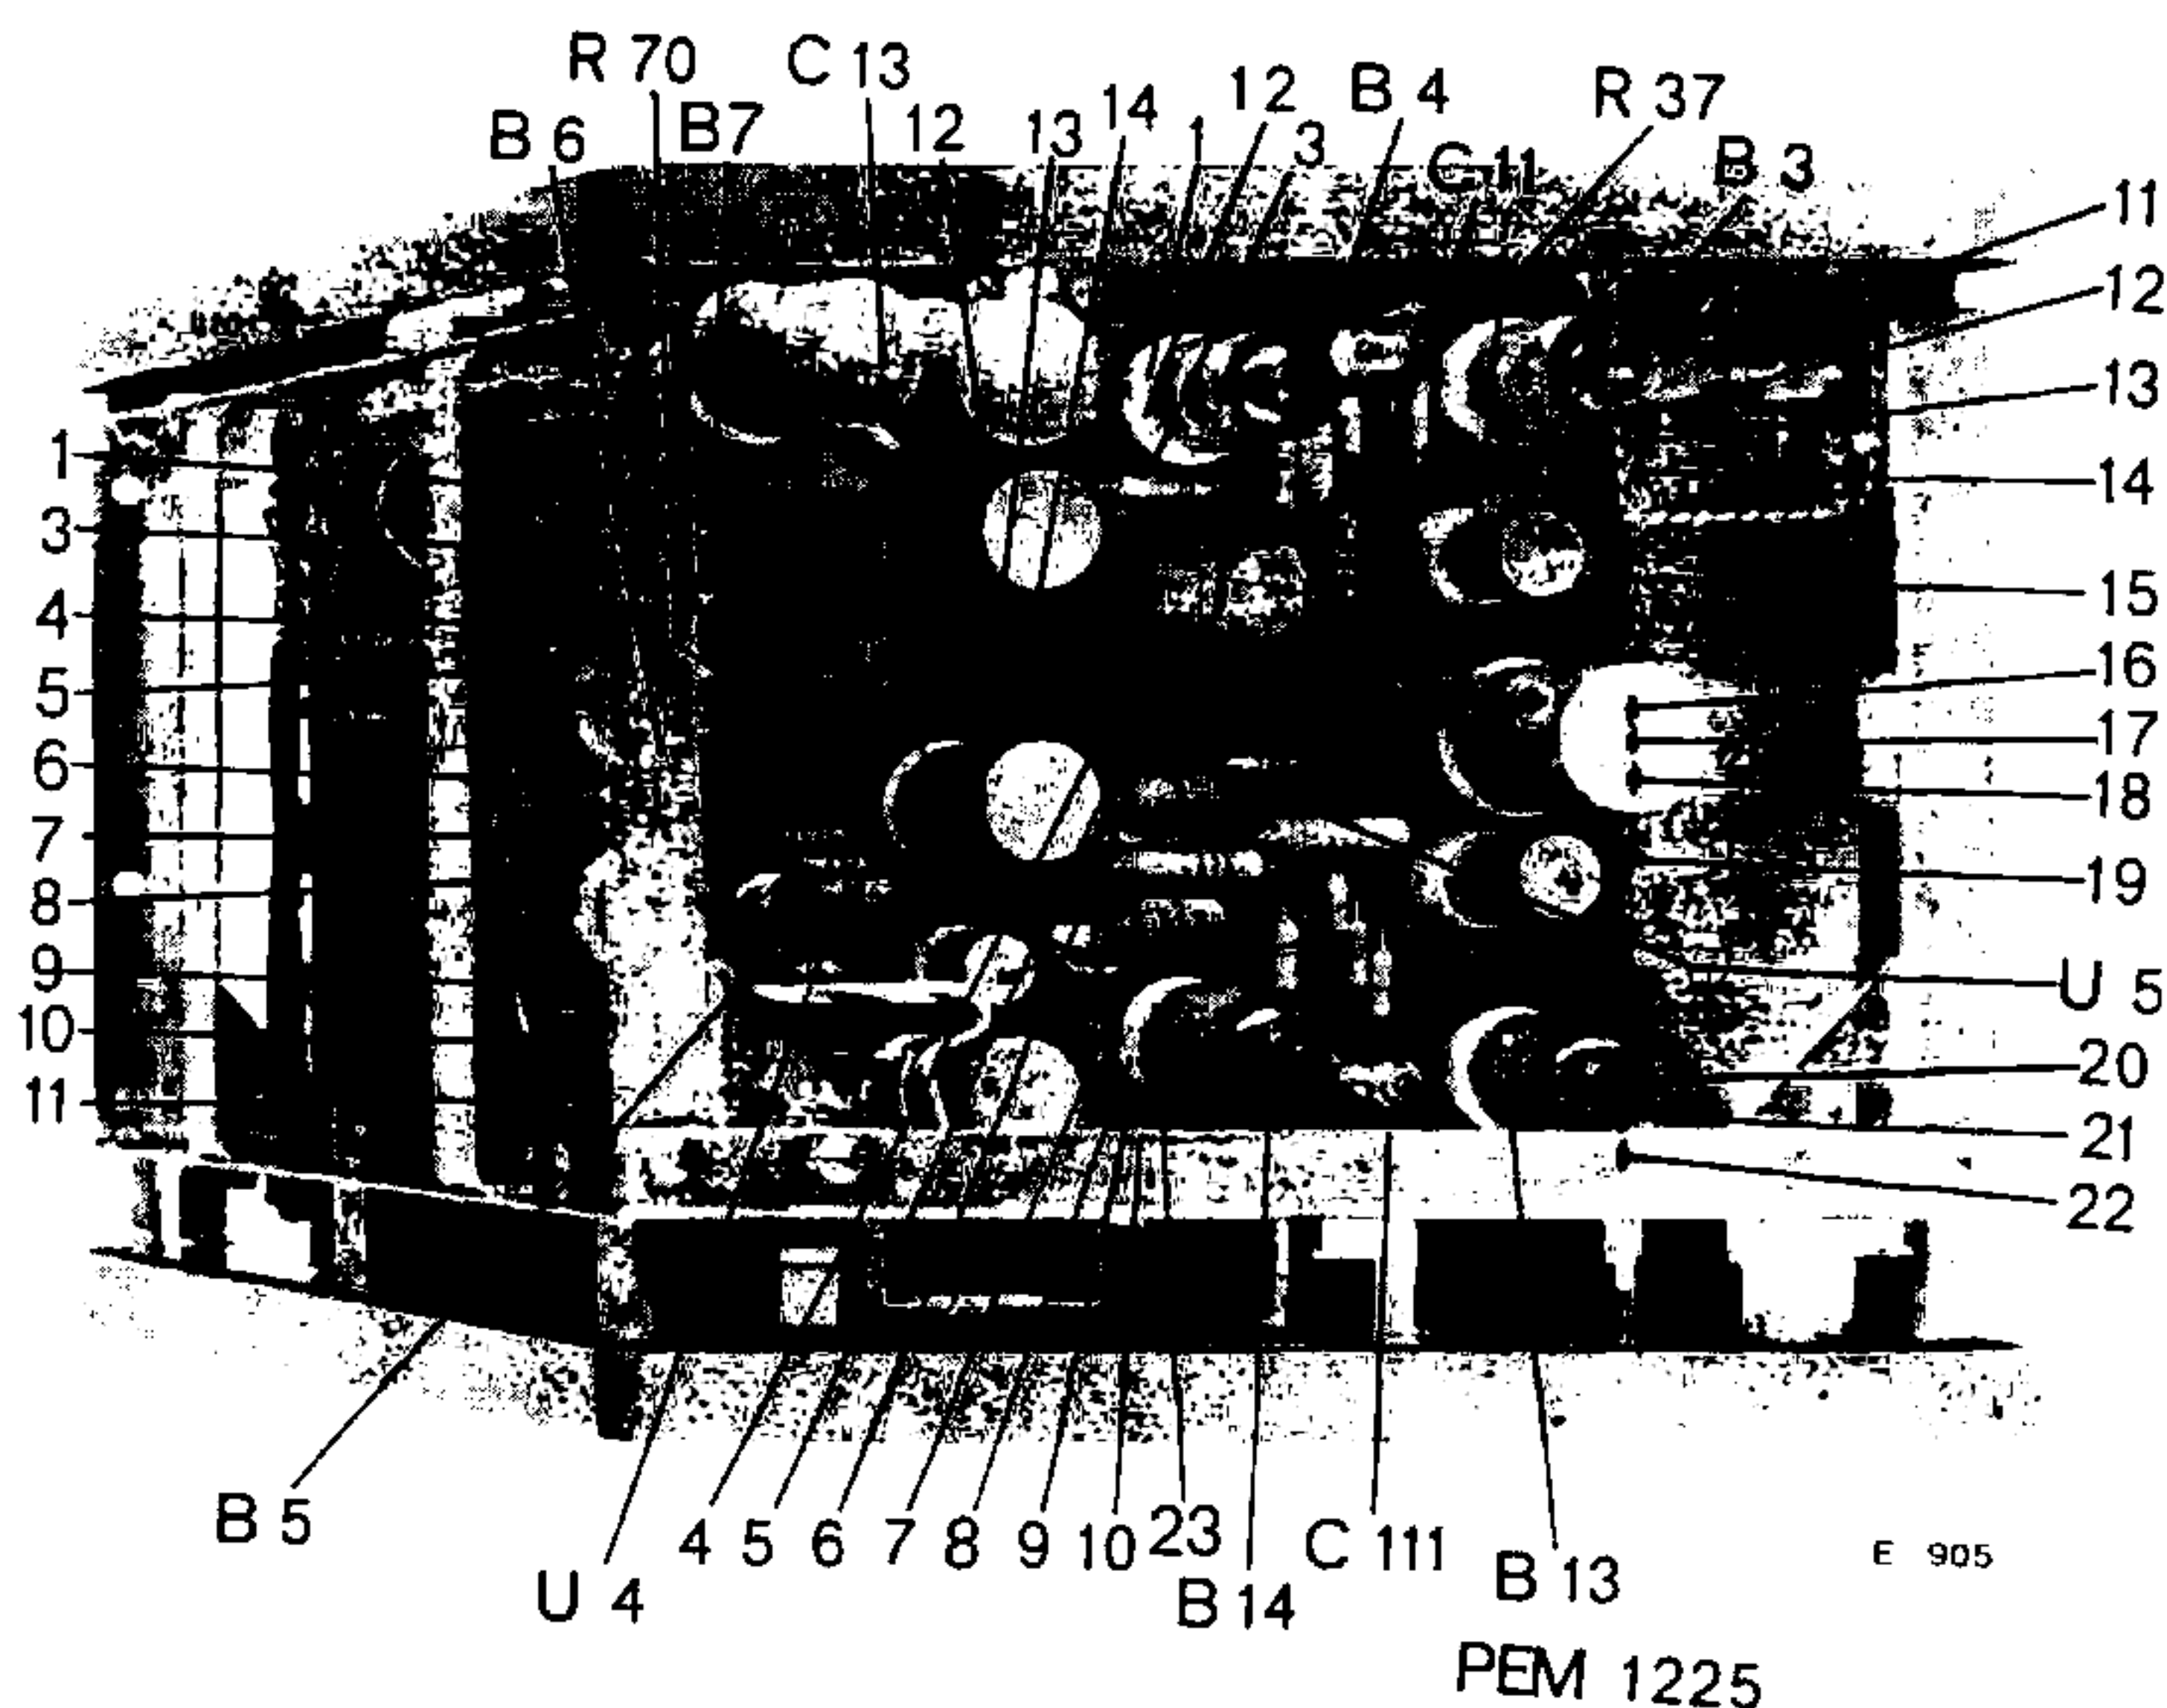

Fig. 11. Right-hand side view
- Adjust the indication of the meter to 100 by means of trimmers C11 and C111 (Fig. 11). See to it that both trimmers are given approximately the same number of turns.